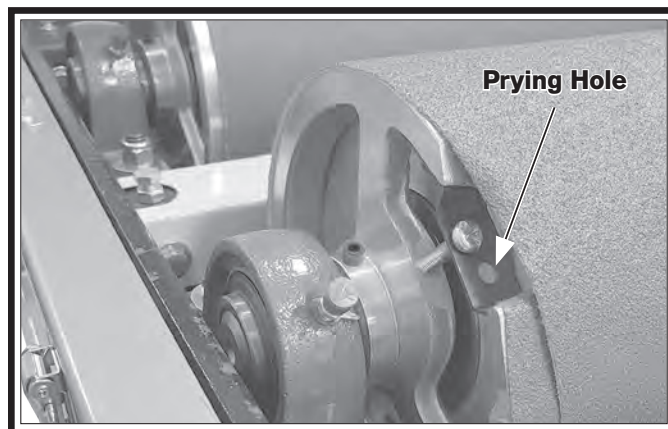

Figure 20. Location of prying hole in spring clip.
- 4.** Insert screwdriver in prying hole in spring clip, as shown in **Figure 20**, and press downward to slightly open spring clip and release end of sandpaper.